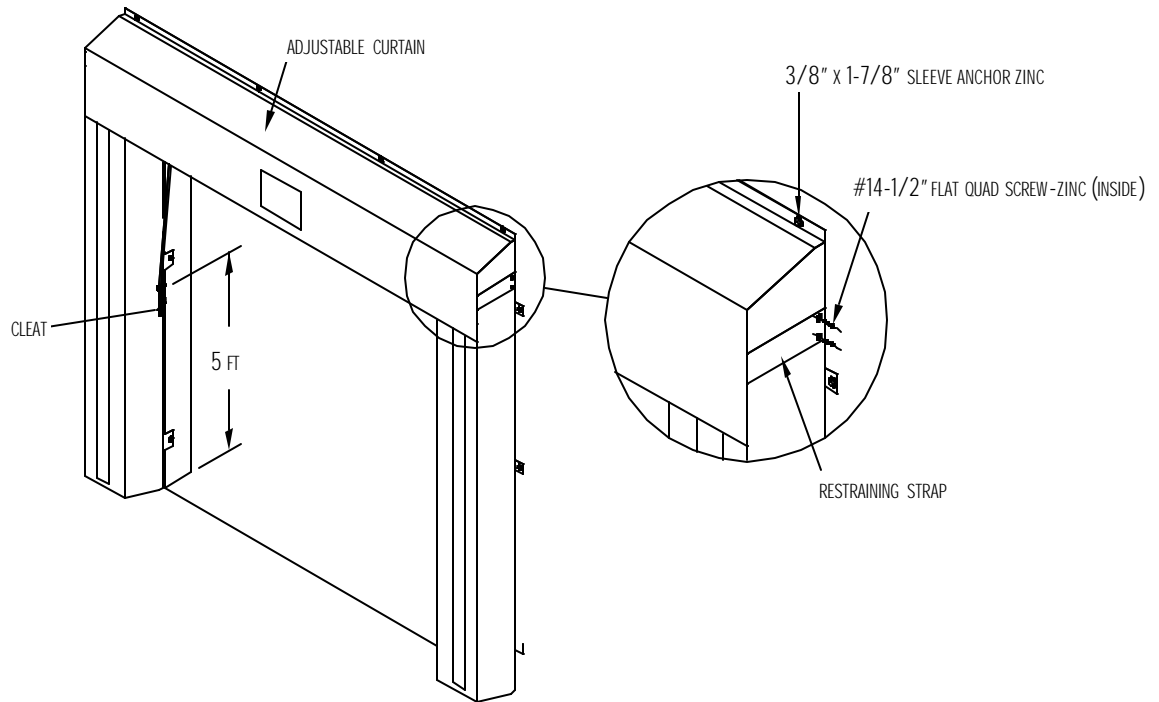

FIG. 01-B
- Feed pull ropes (3 different lengths) through the "D" rings and pulleys (Fig. 01-A).
- Each side of the header seal has one restraining strap(s) (Fig. 01-B) with two grommet holes each.
- Left jamb door opening, approximately 5 feet from dock floor (see Fig. 01-B).